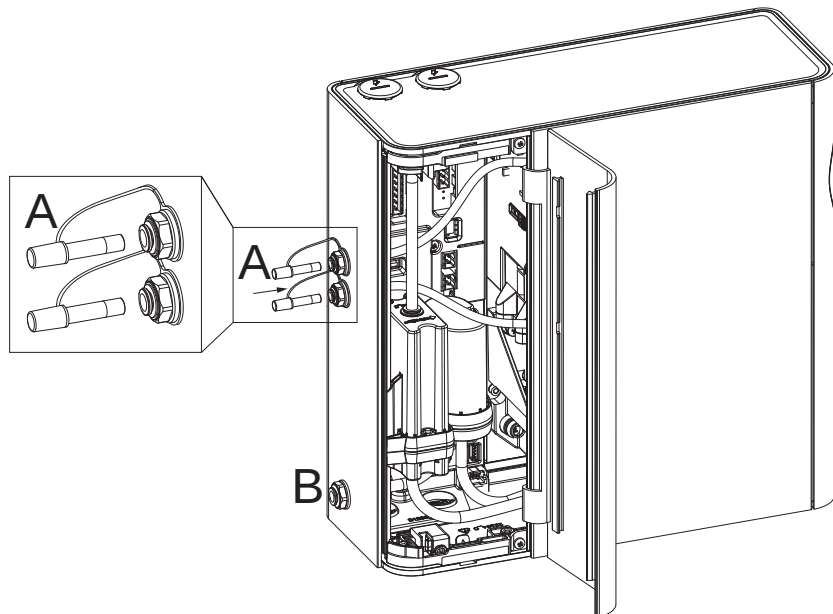

Figure 4-2: Smoke Test Ports (A) and Exhaust Port (B)
Air is expelled from the detector via the exhaust port on the left side of the unit enclosure. See Figure 4-2.
Ensure that the two smoke test port plugs (A) (Figure 4-2) are in place and fully inserted.
Ensure that the exhaust port (B) (Figure 4-2) is open.